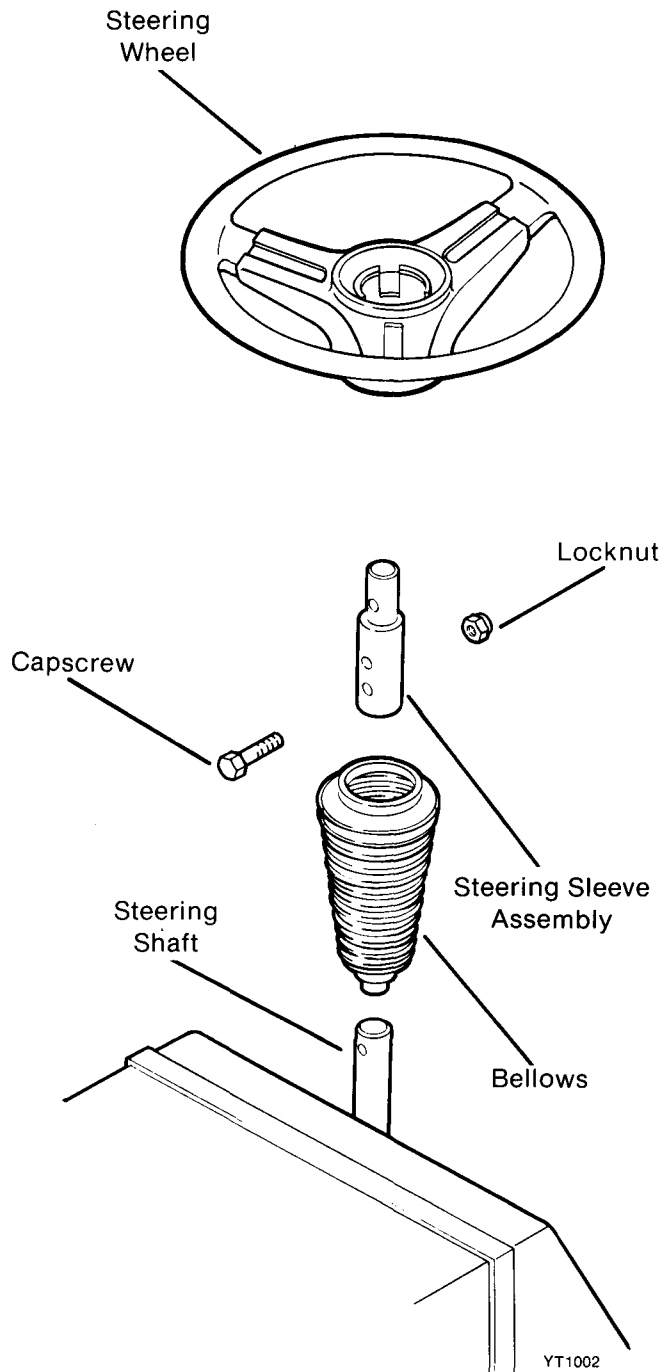

FIG. 40
- B. Compress steering shaft bellows to expose capscrew through steering sleeve assembly. (Fig. 40) Remove capscrew and lock nut. Lift steering wheel assembly and bellows off steering shaft.
- B. Compress steering shaft bellows to expose capscrew through steering wheel adaptor. Remove capscrew and locknut. Lift steering wheel assembly off of shaft. Compress bellows further to expose capscrew through height adaptor sleeve. Remove capscrew and locknut. Slide height adaptor sleeve and bellows off of steering shaft. (Fig. 40)
- B. Compress steering shaft bellows to expose capscrew through steering wheel adaptor. Remove capscrew and locknut. Lift steering assembly off of shaft. Compress bellows further to expose capscrew through height adaptor sleeve. Remove capscrew and locknut. Slide height adaptor sleeve and bellows off of steering shaft. (Fig. 40)